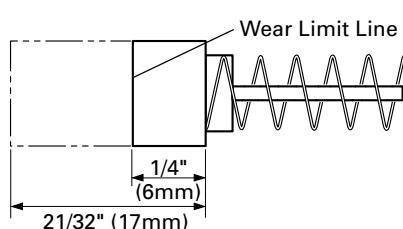
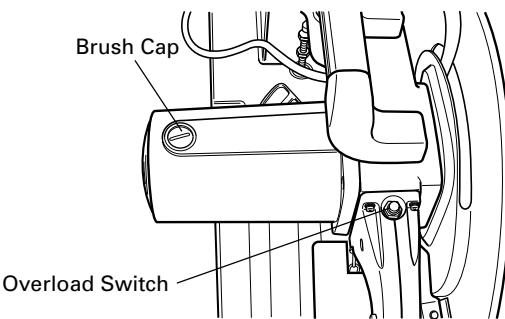

Fig. 20
Fig. 21
2. Inspecting the carbon brushes (Fig. 20 and Fig. 21)
Therefore, inspect the carbon brushes periodically and replace them when they have become worn to the wear limit line as shown in Fig. 20.
The carbon brushes can easily be removed after removal of the brush caps (see Fig. 21) with a slotted (minus) screwdriver.